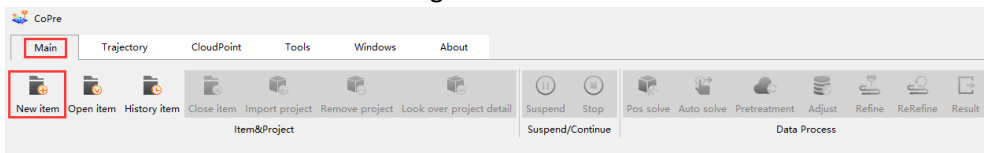

Figure 2
- Click Main - New item as shown in figure 2